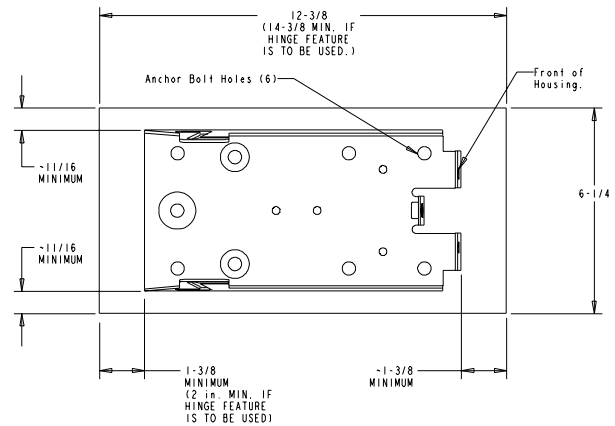

Figure 3: Positioning the Top Panel
1. Position the top panel on the ceiling or wall, horizontally or vertically, depending on the installation requirements. See figure 3. A smooth flat surface is ideal for proper installation. Note the minimum space requirements shown in **figure 3.**